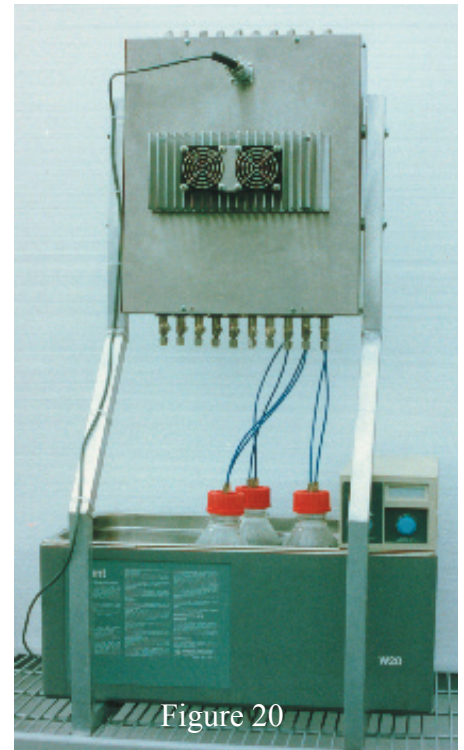

Figure 19
**Open Circuit Option:** For highly active samples, such as activated sludge, compost, or even small animals, the Open Circuit Option (Figure 19) provides the high flow of air needed to keep the sample viable. In a Closed Loop System, these samples could suffocate before the System has a chance to refresh the Sample Chamber. With the Open Circuit Option, fresh air is constantly supplied to the Sample Chamber. Head space gas is sampled by “sniffing” from the flow of gas through the chamber and passing it through the gas analyzers. But in order to back calculate the gas consumption / production rates, the flow of gas through the chamber must be known. Therefore we use a precise flow controller inside and a specially